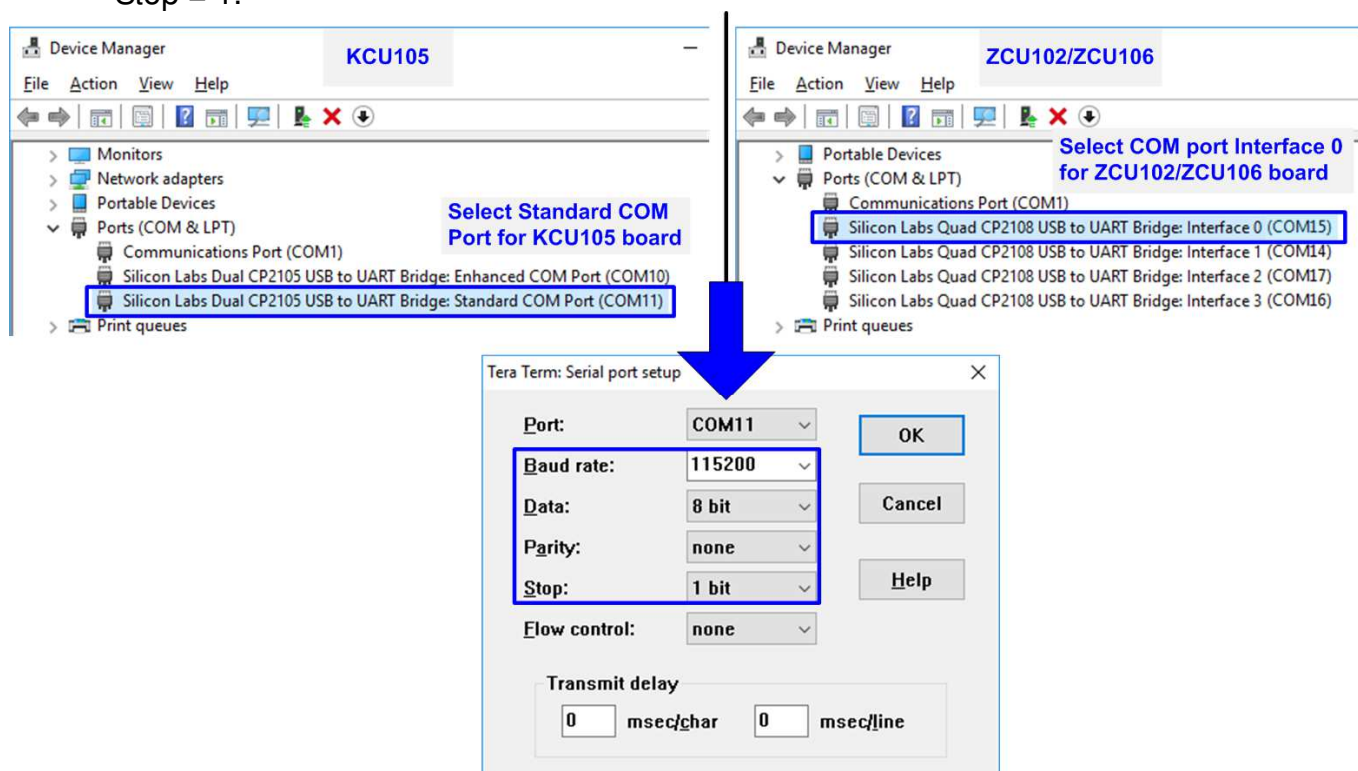

Figure 4-5 COM port number for Serial console
- 8) Open Serial console. When connecting FPGA board to PC, many COM ports from FPGA connection are detected and displayed on Device Manager. In case of KCU105, select Standard COM port. In case of ZCU102/ZCU106, select COM port number of Interface0 (COM15 in right side of Figure 4-5) for Serial console. On Serial console, use following setting: Baud rate=115,200, Data=8 bit, Non-Parity, and Stop = 1.